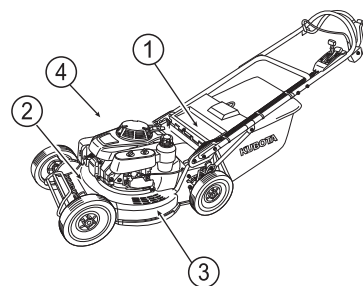

Fig. 1
- Safety labels are affixed on the lawn mower as shown in Fig. 1.